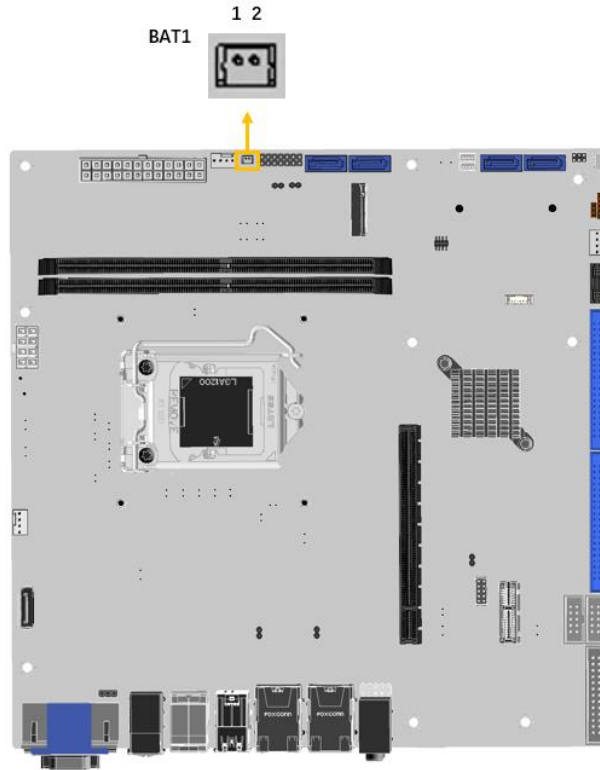

Figure 3-8: Battery Connector Location
- CN Location:** See **Figure 3-8**